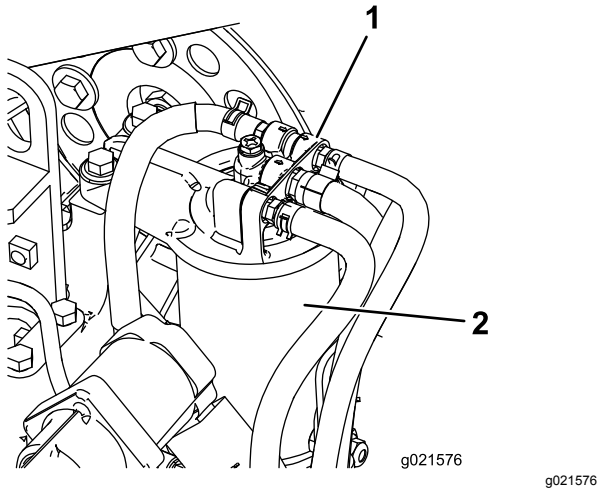

Figure 56
1. Clean the area around the fuel filter head (Figure 56).
2. Remove the filter and clean the filter head mounting surface (Figure 56).